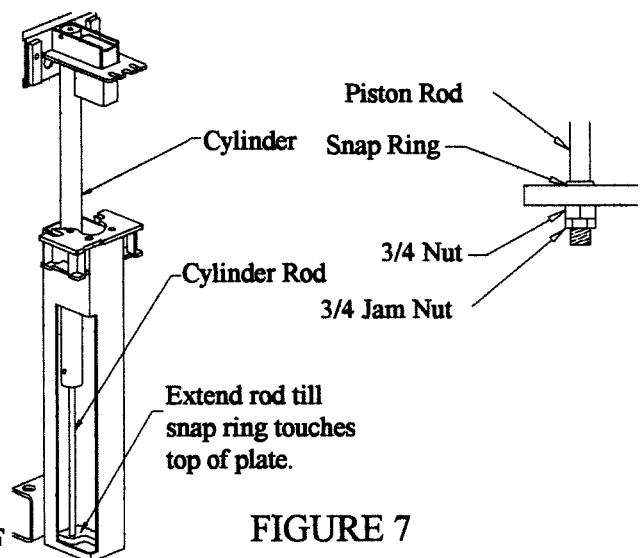

FIGURE 7
9. Pull each cylinder rod down and insert the threaded end into the mounting holes at the carriage base. Make sure the snap ring on the cylinder rod is in its groove. Pull the rod through the hole until the snap ring on the rod comes in contact with the carriage base plate. See Figure 7. Attach a 3/4" NF nut to the threaded rod and tighten until the rod turns. Hold the 3/4" nut with a wrench and tighten a 3/4 NF jam nut against it.